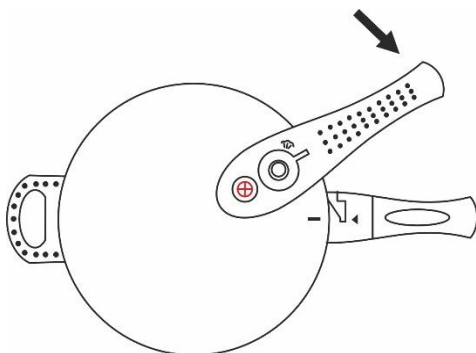

Fig. 5
- Turn the lid clockwise until it is securely and completely closed (Fig. 5).